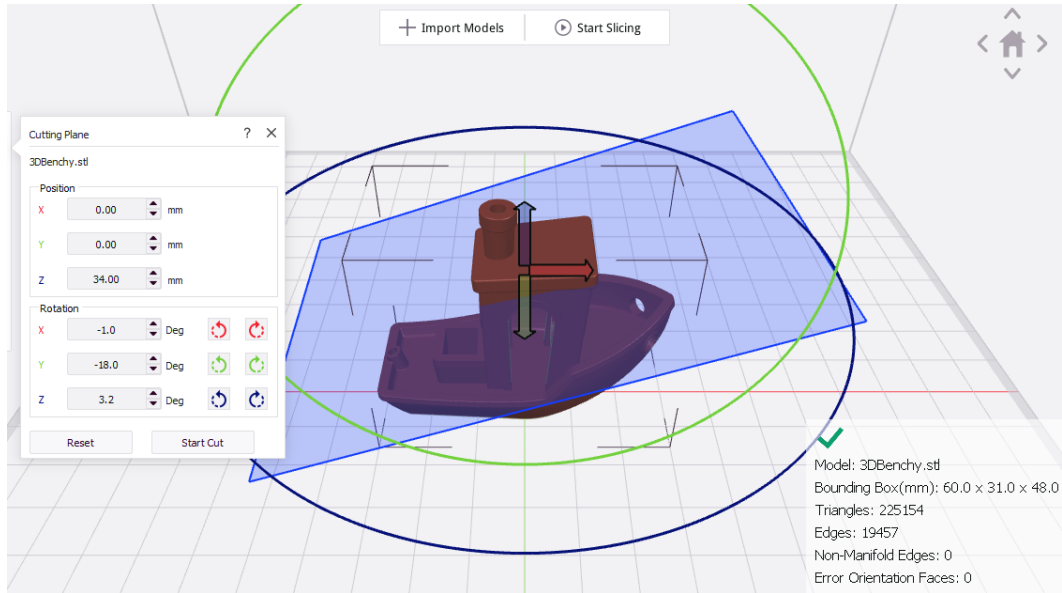

Figure 2.8 – Using the Free Cut tool in ideaMaker
3. Observe that we can move the cutting plane (blue rectangle) around the model using the orbit circles or by typing in values into the **Cutting Plane** dialog box (Figure 2.8). The **Start Cut** button cuts the model along the cutting plane.